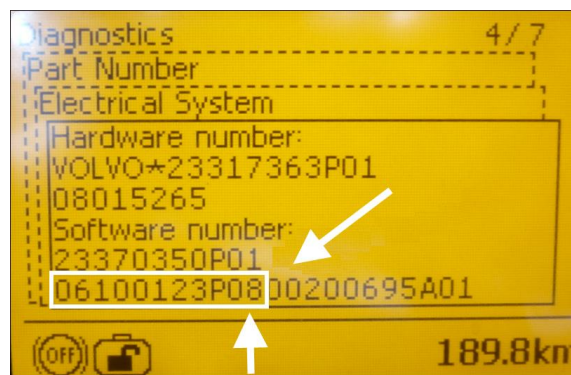

Figure 4
- The DID shows the software number (program number) and the actual revision number just after the letter "P" for the vehicle. The example in Figure 4, the program number is 06100123 and the actual revision number is P08.